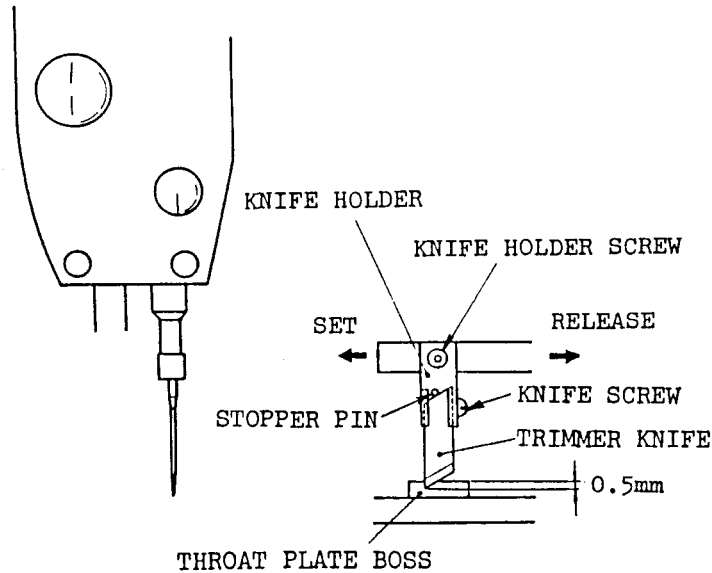

Fig. 15
9) To replace the trimmer knife (see Fig. 15)
10) To adjust the trimmer knife (see Fig. 15)